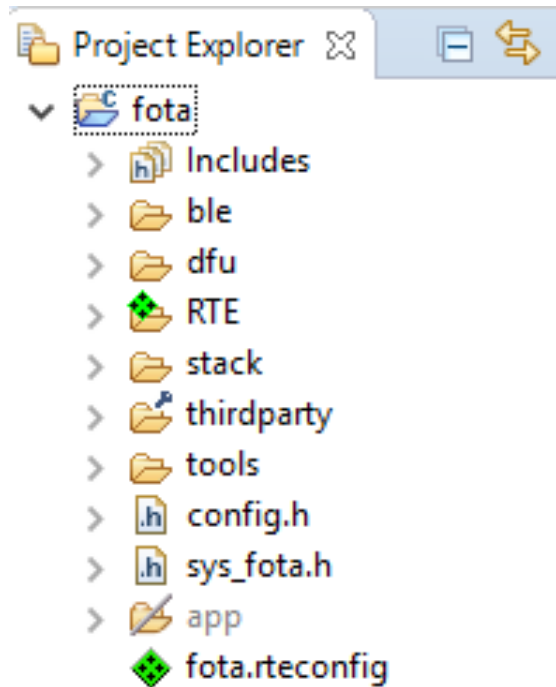

Figure 11. Copying the Project
1. Import the source code project. Navigate to **File > Import > General > Existing Projects into Workspace**, set the **Select root directory:** option with the path to the source code, mark the checkbox **Copy projects into workspace**, and click **Finish**. The project appears in the left side of **Project Explorer**, as shown in the figure "Copying the Project" \(Figure 11\).